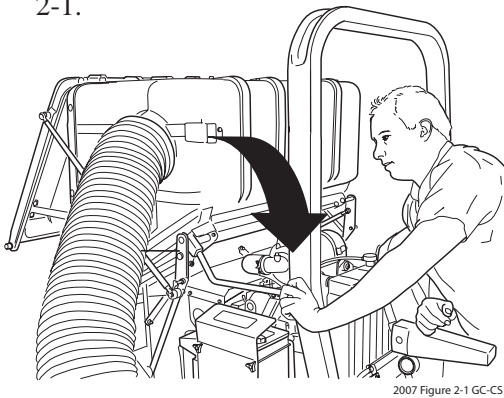

FIGURE 2-1
- Pull downward on the hopper door handle to allow the hopper sweeper to remove the material from inside the hopper. See Figure 2-1.